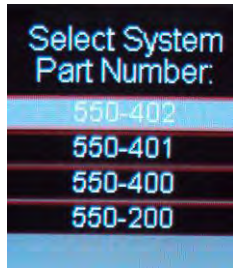

Figure 5
6. If you selected "Holley TBI", select the part number for the TBI system you are using (Fig 5). Proceed to step 8.